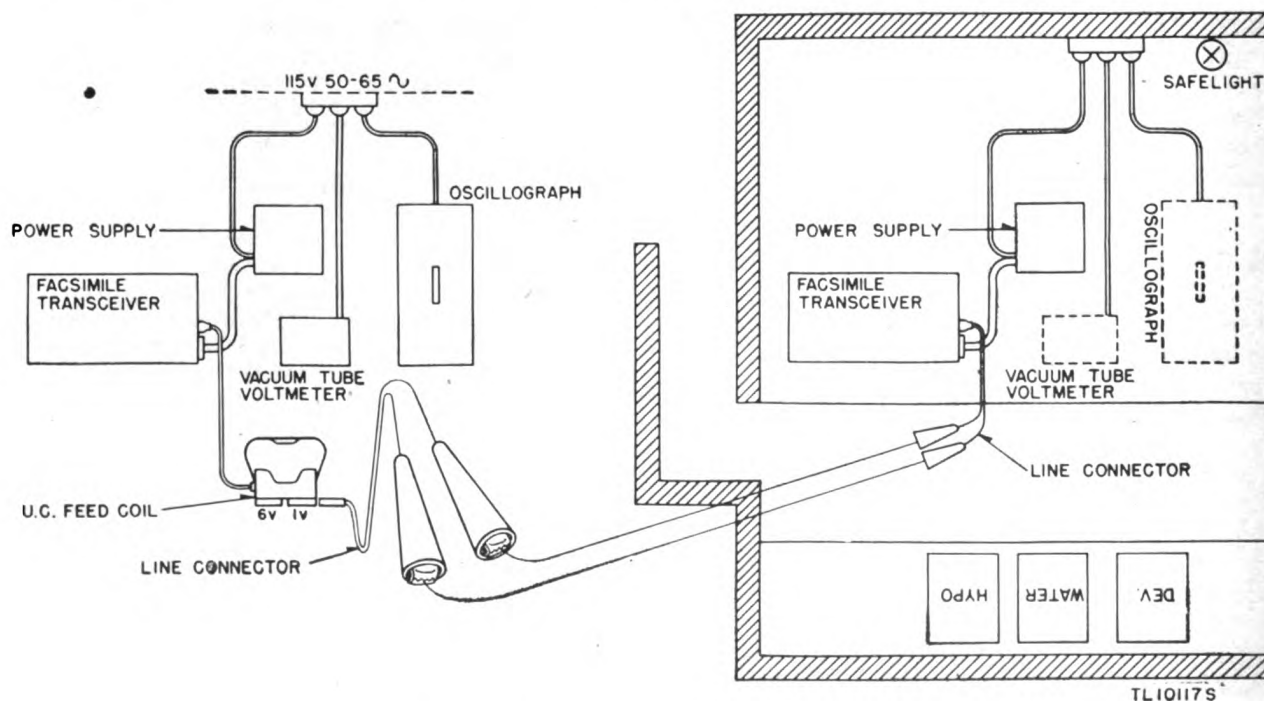

Figure 6. Equipment set up for operational test.
*a.* LOCATION OF EQUIPMENT. Set up equipment *under test* in a lighted room. Set up the equipment *known to be in good condition*, in a darkroom. (See fig. 6.) If a darkroom with usual equipment is not available, the portable darkroom Bag BG-140 (fig. 77) and its associated equipment can be used. (See TM 11-375B.)